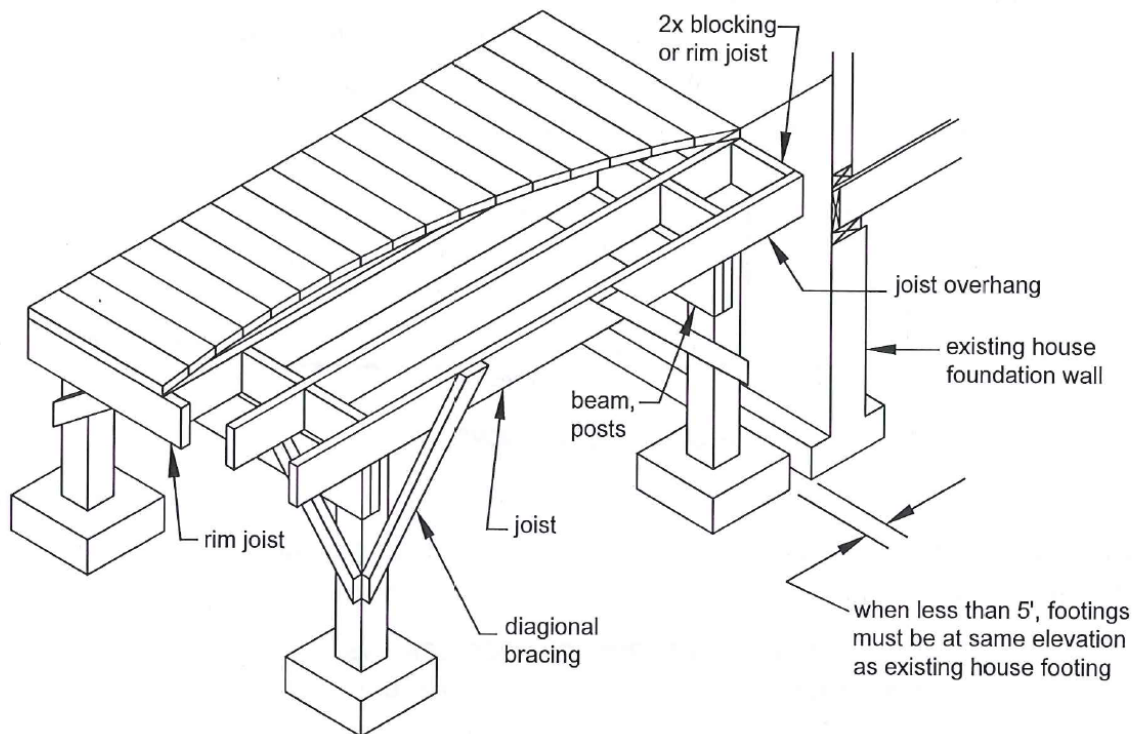

FIGURE 1 — FREE-STANDING DECK
1. This document can be used in lieu of construction plans and it applies to single level – single span rectangular decks only. The overall deck length shall be equal to or less than the overall deck width. (Figures 1 or 2, page 4) Maximum 14 feet above grade and for Residential Use Only. Submit the proposed deck layout and framing plan if the deck has multiple spans.